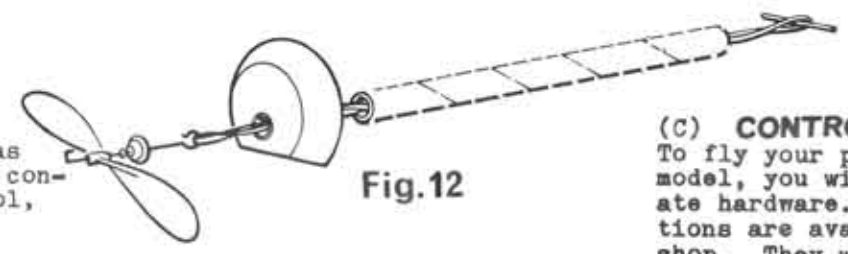

Fig. 12
**ENGINE COWLING:** Needs no lip when cut out. Trim to fit onto fuselage then paint bright red. Glue in place on fuselage. Assemble propeller and nose button on wire (bend wire as shown in Fig. 12). Attach rubber (many loops then tied for desired length) and drop through tube until it protrudes past F12. Insert wooden dowel through hole in F12, pick up rubber loop and through hole in F12 on other side of fuselage.